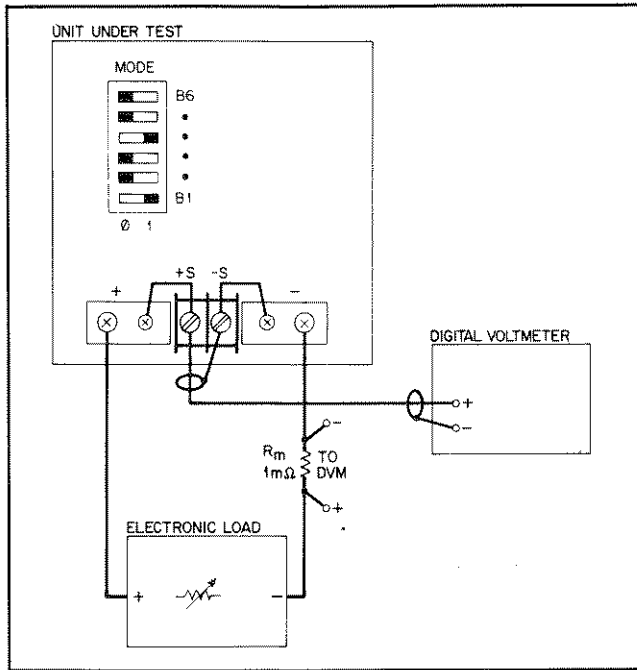

Figure 5-2. Basic Test Setup
**Test points:** See Figure 5-2
- Connect the test equipment as shown in Figure 5-2. Operate the electronic load in constant resistance mode (Amps/Volt) and set resistance to maximum.
**Test Points:** See Figure 5-2
Test Set-up: See Figure 5-2
- a. Connect the test equipment as shown in Figure 5-2. Operate the electronic load in constant-current mode and set for minimum current.